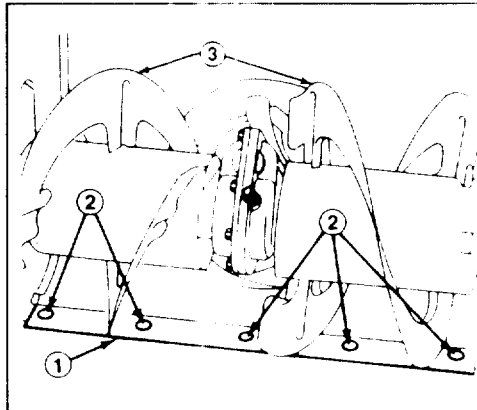

Figure 18
4. Support the auger blades off the ground so that both the scraper and the auger blades (Fig. 18) clear the level surface by at least 1/16 inch.